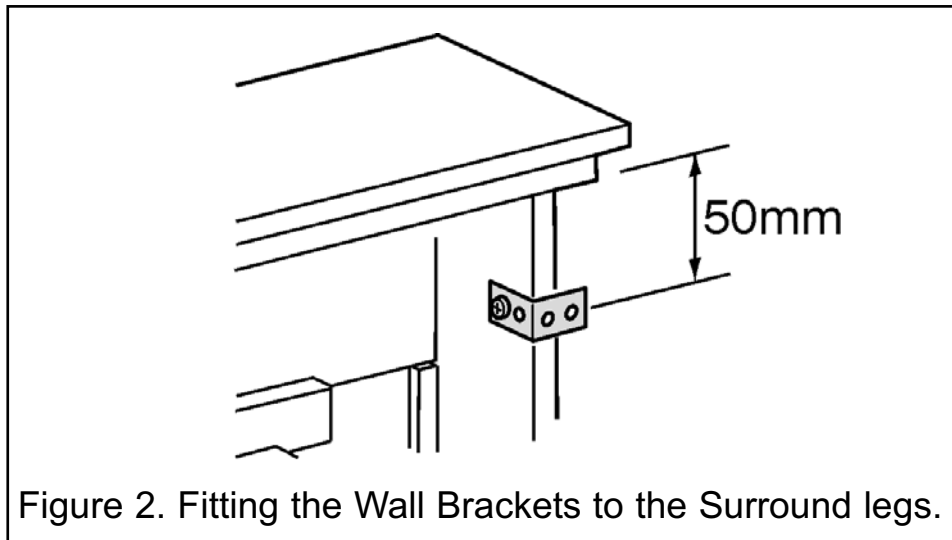

Figure 2. Fitting the Wall Brackets to the Surround legs.
- Lay the surround (A) onto a smooth, flat, clean surface with the inside facing upward. Place wall fixing brackets (C) 50mm from the top outside edge of the legs as shown in figure 2. Secure in place using four screws (F).